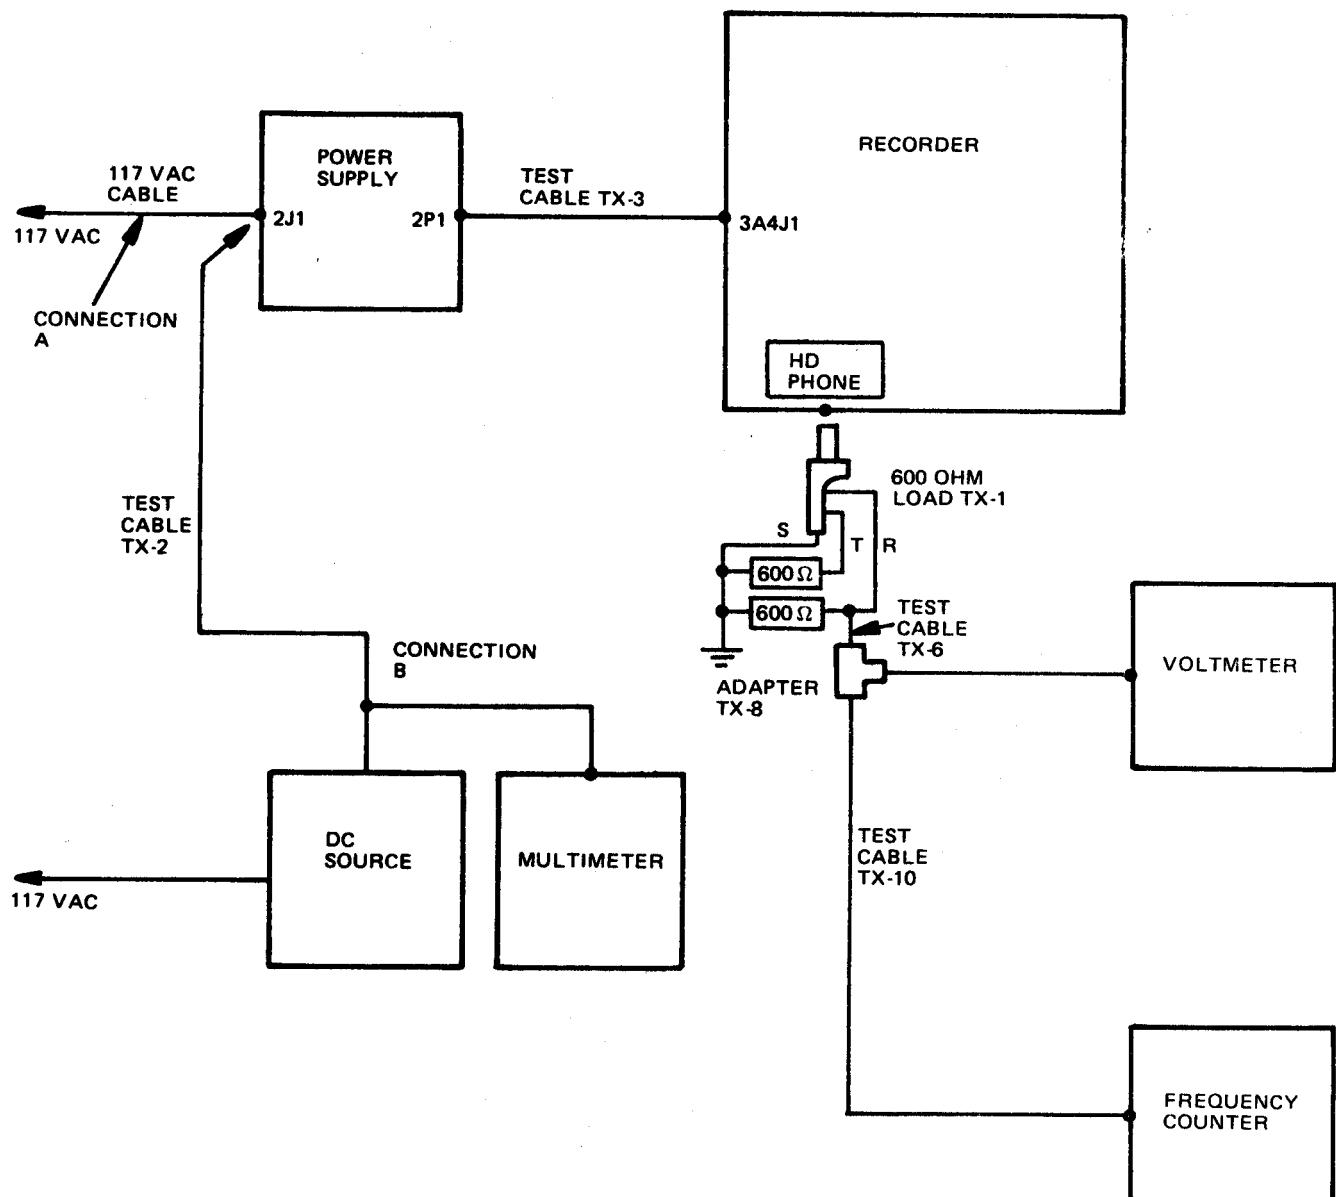

Figure 3-7. Tape Speed, Equipment Setup
(1) Remove recorder housing, refer to paragraph 3-25.
(2) Connect equipment as shown in figure 3-7, connection A.
(3) Insert 3 kHz test tape.
(4) Perform procedure of table 3-3.
| TAPE SPEED | | | EQUIPMENT SETUP: FIGURE 3-7, CONNECTION A | | | |
| | | | EQUIPMENT SETUP: FIGURE 3-7, CONNECTION B | | | |